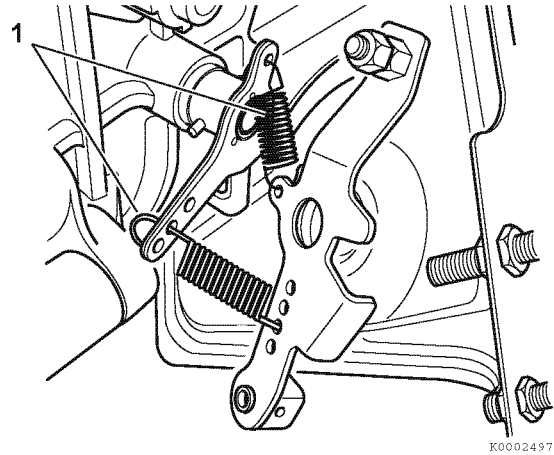

Figure 6-79
2. Pull the assembly away from the crankcase (1, **Figure 6-79**) and mark the position of each spring end for reassembly. Carefully remove each spring.